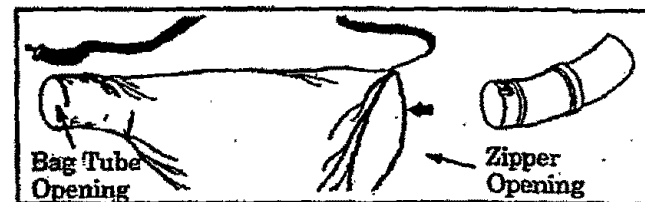
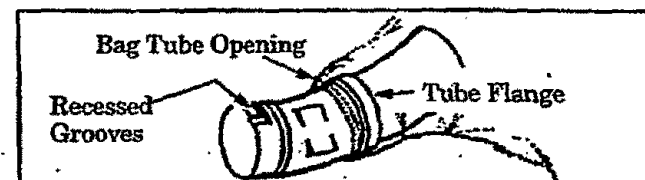

Figure 2
Figure 3
2. Insert the Elbow Tube, grooved end first, through the zipper opening in the vacuum bag (Figure 2). Then, push the grooved end of the Elbow Tube through the bag tube opening in the other end of the bag. Figures 2 & 3. Make sure the bag tube opening is flush against the tube flange. Figure 3.